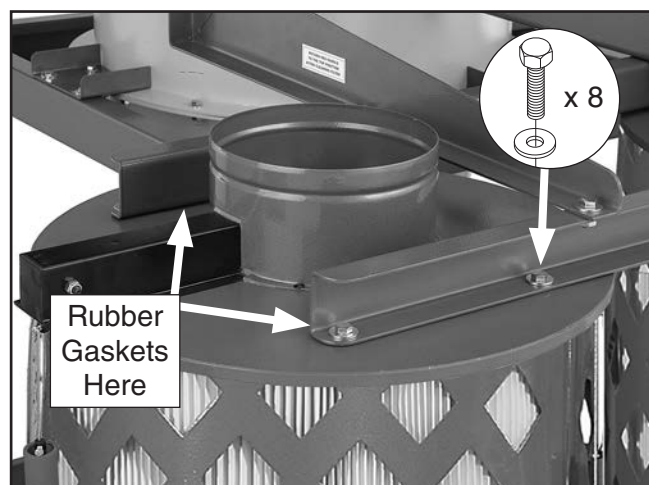

Figure 24. Canister filters mounted to the long support braces.
20. Mount the two filters to the braces with brace gaskets between them, as shown in **Figure 24**, using (8) $\frac{5}{16}$ "-18 x $\frac{3}{4}$ " hex bolts and (8) $\frac{5}{16}$ " fender washers.